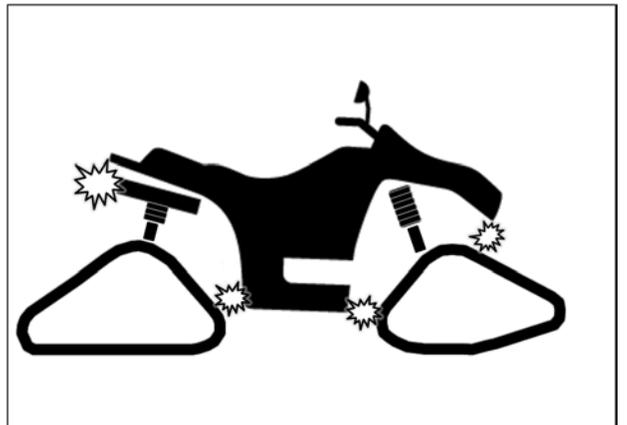

Fig. 31
2. Verify for possible contact between Track System and lower fender corners. See Fig. 31